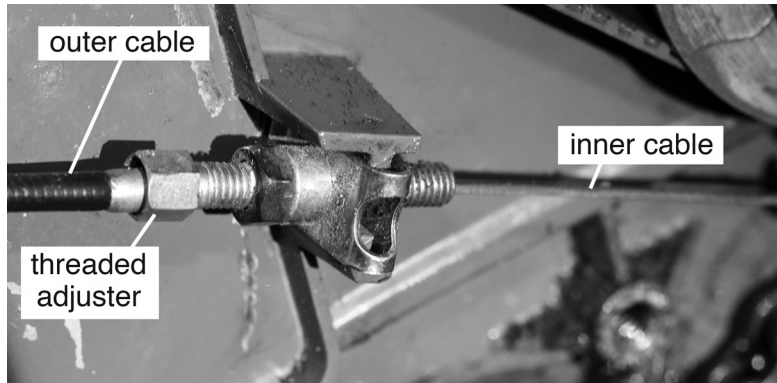

Fig. 12
- (d) Fig. 12 shows the adjuster used to tighten the operating cable for the rear roller. State the conversion of motion that takes place when this adjuster is turned.